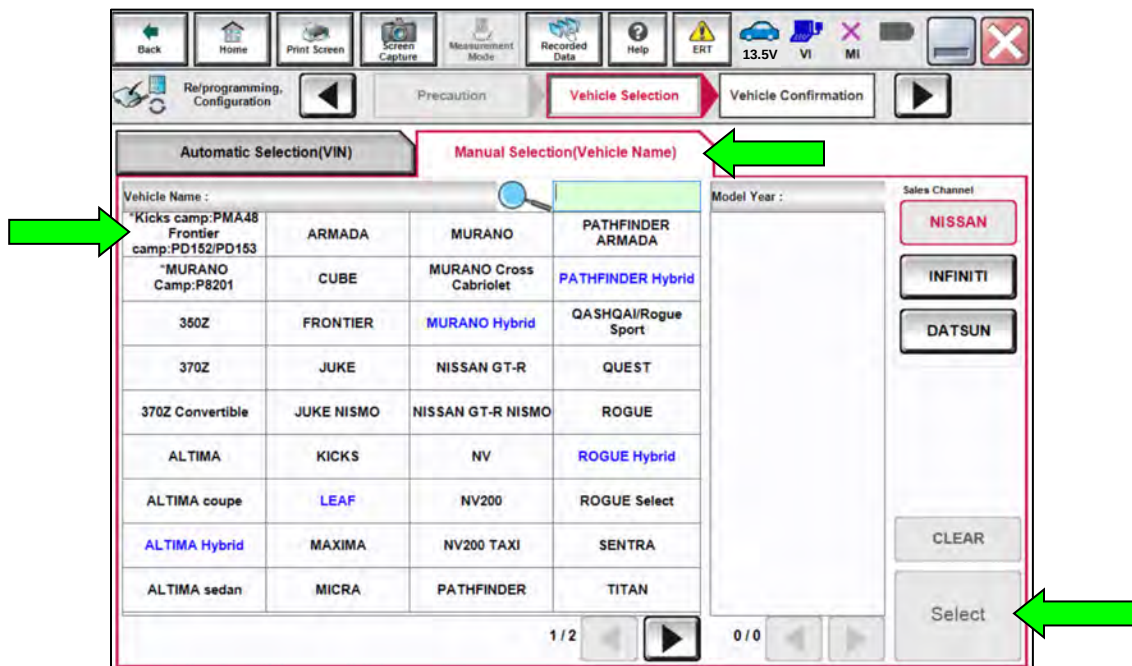

Figure 18
23. Select **Manual Selection(Vehicle Name)** (Figure 18).